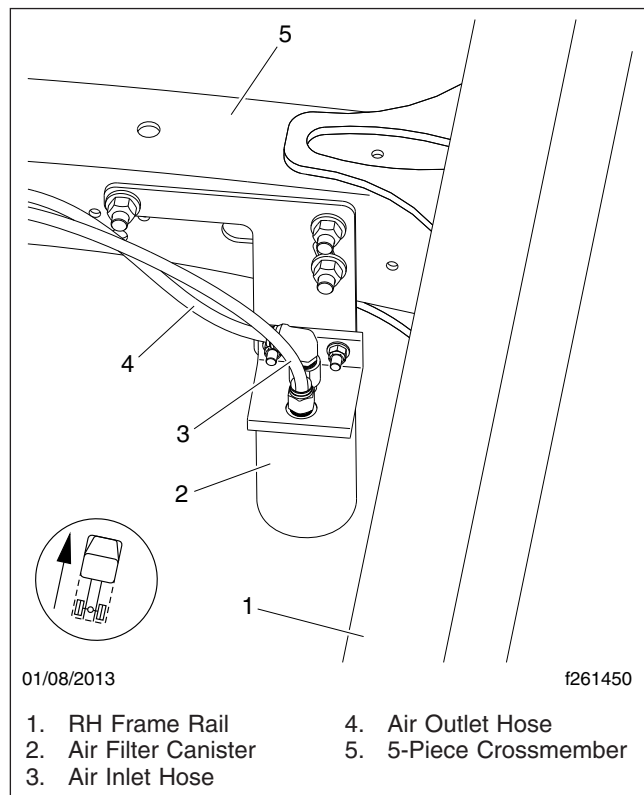

Fig. 13, Detroit Transmission Air Filter (typical installation)
3. Remove the air filter canister, located between the main air system and the transmission reserve air tank. See Fig. 13.